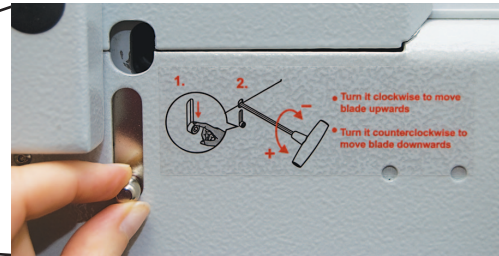

Fig. 14b
2. Slide the finger knob down and hold in place to open the access door (fig. 14b).